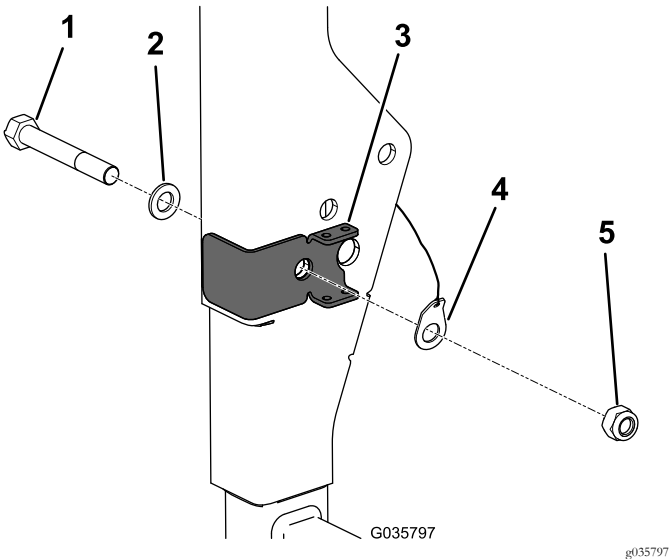

Figure 8
- Align the hole in the ROPS bracket with the hole in the ROPS and install the new bolt with the existing washer (Figure 8).